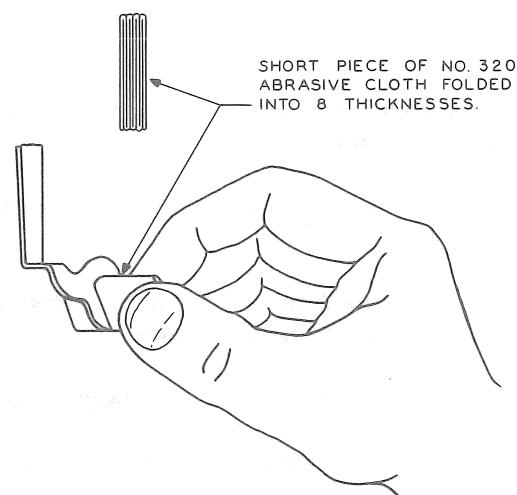

Fig. 61—Polishing of Fork Slot
- (1) Clean and lubricate fork and vane stem as follows:
- (a) Surfaces of fork slot should be smooth. If bearing surfaces of fork are so rough that they cannot readily be made smooth, replace relay; otherwise, smooth rough spots using No. 320 or finer abrasive cloth folded as shown in Fig. 61.